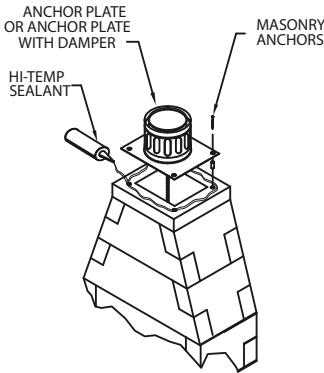

Figure 2
3. Mount Anchor Plate: Chimneys for masonry fireplaces begin with an Anchor Plate or Anchor Plate with Damper. **Warning:** Anchor Plate with Damper is not allowed in chimneys serving stoker-fired, liquid or gas-burning appliances. **Caution:** Do not install Anchor Plate with Damper on Factory-built fireplaces. **Important:** *be sure the surface of the masonry chimney has a level surface on which to attach the Anchor Plate or Anchor Plate.* If the top of the masonry does not have a level surface, then you will need to modify the masonry accordingly. Center the Anchor Plate over the masonry flue opening. If a Damper is used, make sure nothing interferes with the damper plate movement. Seal the Anchor Plate in place with a high-temperature sealant. Secure Anchor Plate with (4) 2" x 1/4" masonry anchors (**Fig. 2**).